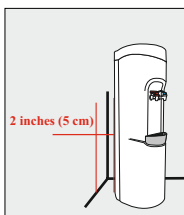

Figure 1
1. Place the water cooler on a flat level surface in a cool shaded location near a grounded wall outlet. Position water dispenser so that the back of the unit is a minimum of 2 inches / 5cm away from the wall to ensure proper ventilation (Figure 1).